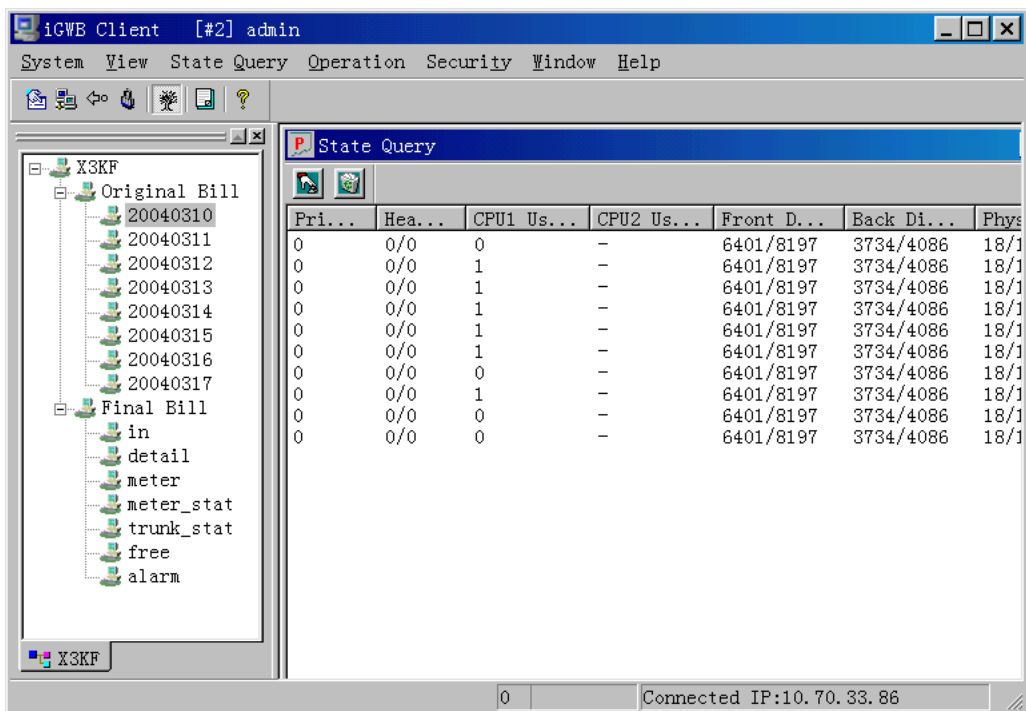

Figure 3-15 [State Query] window
- 1) In the main window of the CDR console, select [Operation/State Query]. The [State Query] window is displayed with the current state information of the server, as shown in Figure 3-15.